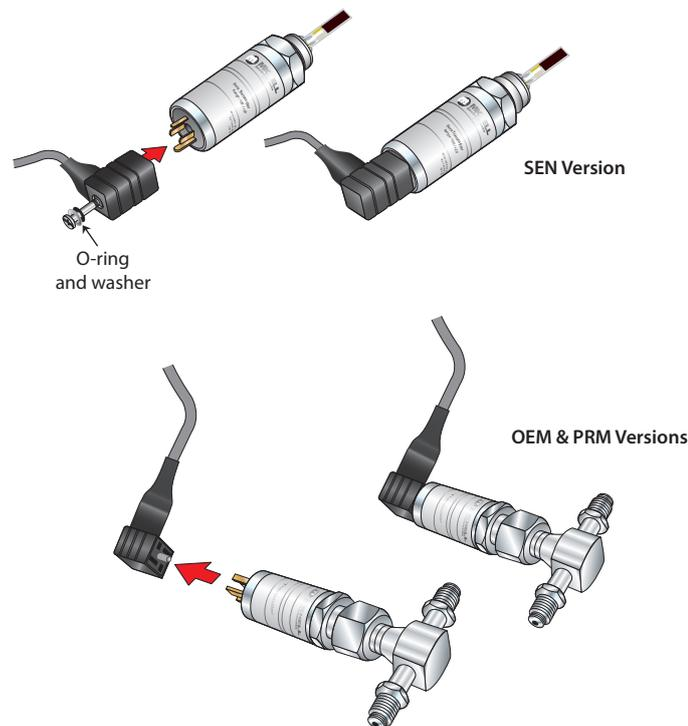

Figure 14 Connector Installation
3. Screw the transmitter (1) into the sensor block (4) and tighten the gas line nut 1/8 (one eighth) of a turn using a second spanner/wrench. **NOTE: Use the flats of the hexagonal nut and not the sensor body.**
4. Fit the transmitter cable/connector assembly to the plug located on the base of the transmitter and tighten the fixing screw (see *Figure 14*).